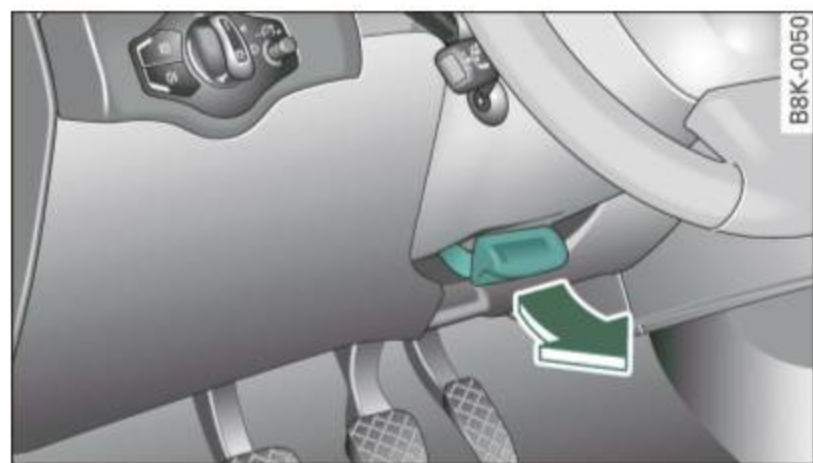

Fig. 117 Lever under the steering column
- Pull the lever ⇒ fig. 117 -Arrow- ⇒ ⚠.